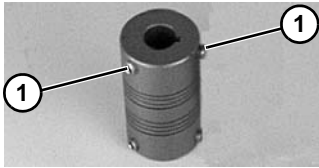

Figure 12
Coupling has two (2) set screws (**Figure 12, item 1**).